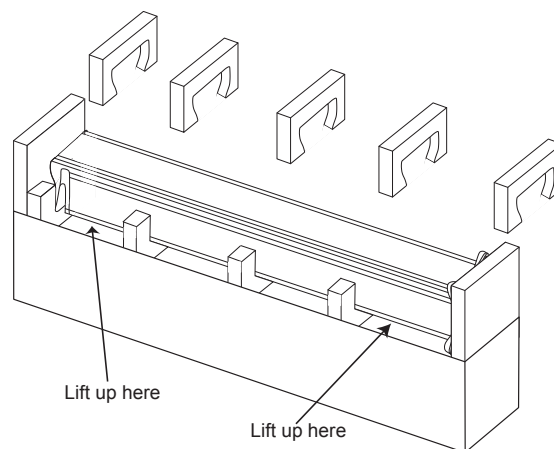

Figure 4
3. Remove the Top Foam pieces from the Loudspeaker and lift up on the rear of the Loudspeaker and place it on the prepared working area. Refer to figure 4.